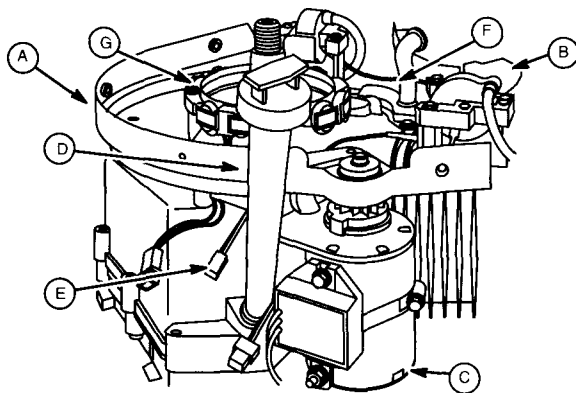

Fig. 1 - Remove Back Plate And Starter Motor
1. Remove the following parts, Fig. 1.